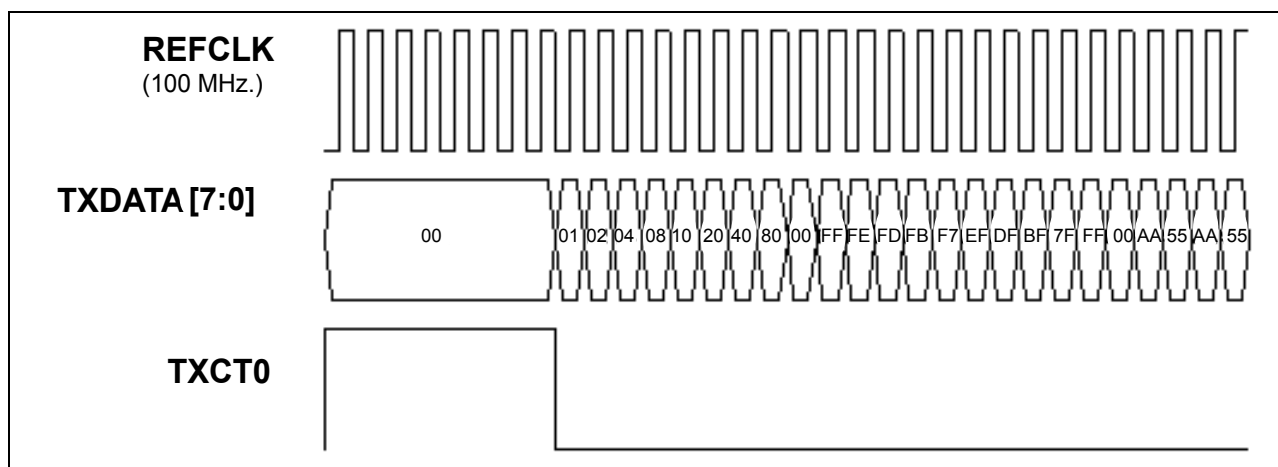

Figure 16. Generated Clock, Data and Control Signal from DG2020
1. Load the Cypress supplied file CY15G0401_EVAL.PDA in DG2020 data generator. If you are using your own data generator, use a similar waveform, as shown in *Figure 16*.